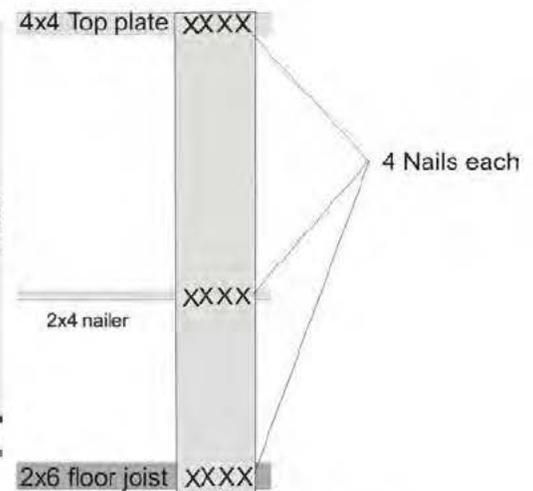

Figure 3
**Step 3.** Use four nails at each floor joist, nailer and top plate. 12 nails for each 1x12 siding board. See Figure 3.